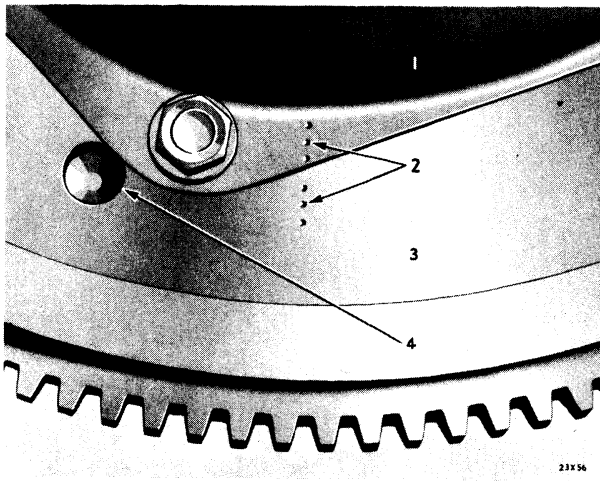

Fig. 2—Punch Marks on Clutch Cover and Flywheel
- (1) Remove the transmission.
- (2) Remove the clutch housing pan.
- (3) Pull out the clutch release bearing and sleeve.
- (4) Mark the clutch cover and flywheel, as shown in Figure 2. Remove the bolts that hold the clutch cover to the flywheel. Loosen each bolt a few turns (in succession) until cover is free. The clutch disc and pressure plate assembly can now be removed from the clutch housing.